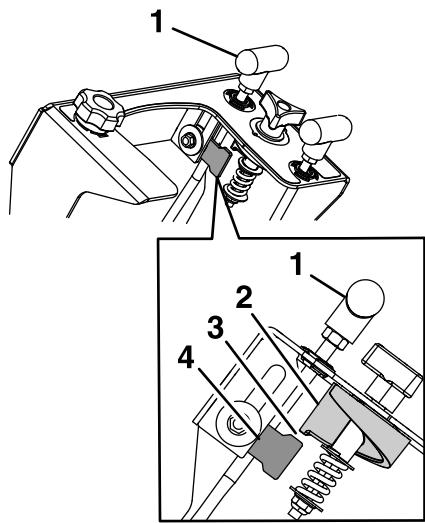

Figure 32
7. When the adjusted correctly, there will be a gap between the rate gate stop and the bottom of the rate dial as shown in Figure 32.